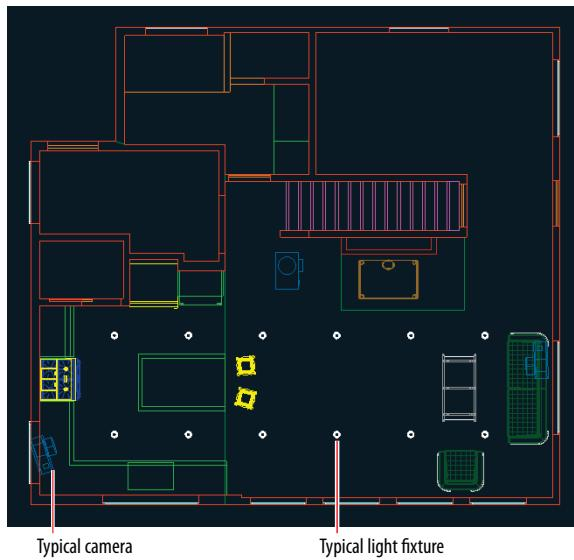

FIGURE 18.6 Viewing light fixture geometry on a floor plan
4. Select the ribbon's Home tab, and expand the Layers panel. Select the Turn All Layers On tool. Light fixtures (down lights) are visible in the viewport (see Figure 18.6).